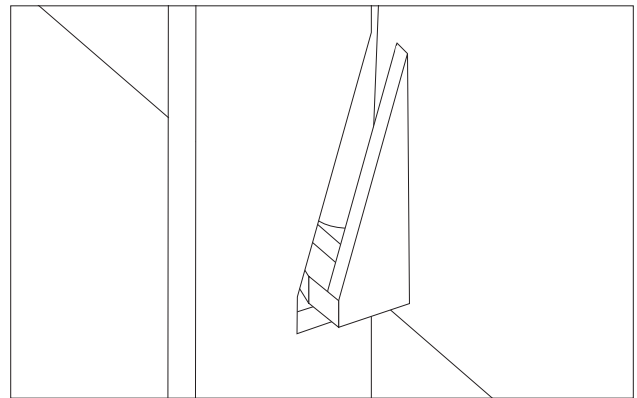

Fig 5-4 Battery Module Retaining Flange
4. As the battery module slides into the bay, the retaining flange will fall behind the notch in the frame. See figure 5-4. When a battery module is being removed, this flange prevents the battery from falling out of the bay until both people have assumed the full weight of the module.